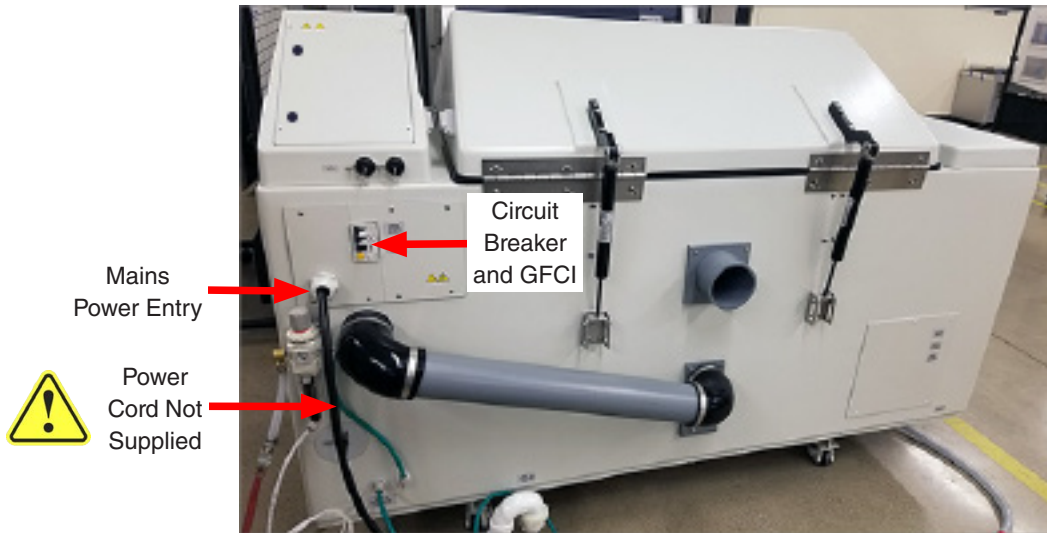

Figure 5.5c: Mains power entry and circuit breaker locations.
- The Main Power Circuit Breaker and a Ground Fault Circuit Interrupter (GFCI) are located on the rear of the Q-FOG (Figure 5.5c).